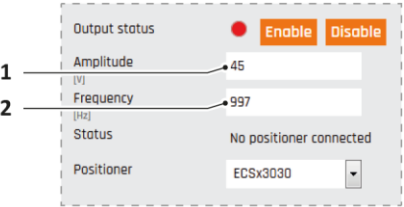

Figure 18 Axis tile, "General" section
- To vary the step size, type in the desired value into the amplitude setting field (Figure 18/1) and press [Enter].
- To vary the repetition rate, type in the desired value into the frequency setting field (Figure 18/2) and press [Enter].